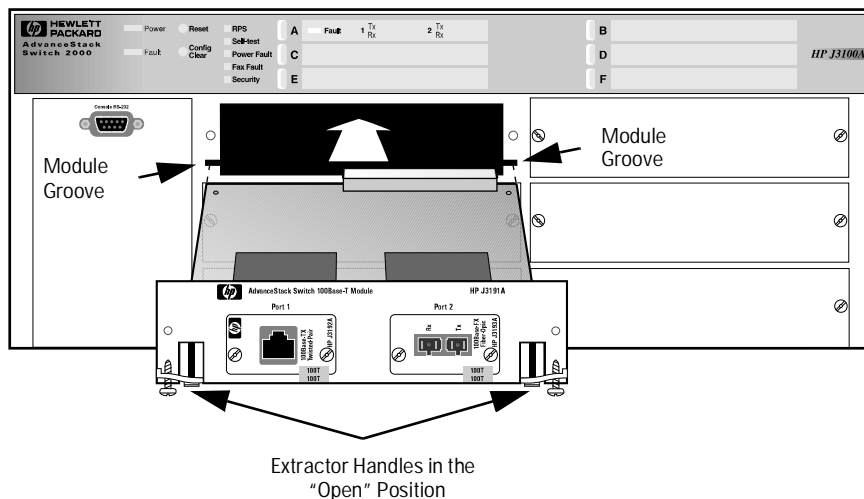

Figure 3. Position the Module
4. Holding the module by its edges—taking care not to touch the metal connectors—position the module in front of an open slot on the switch by aligning the edges of the module with the small grooves near the bottom of the module slot, as shown in figure 3.